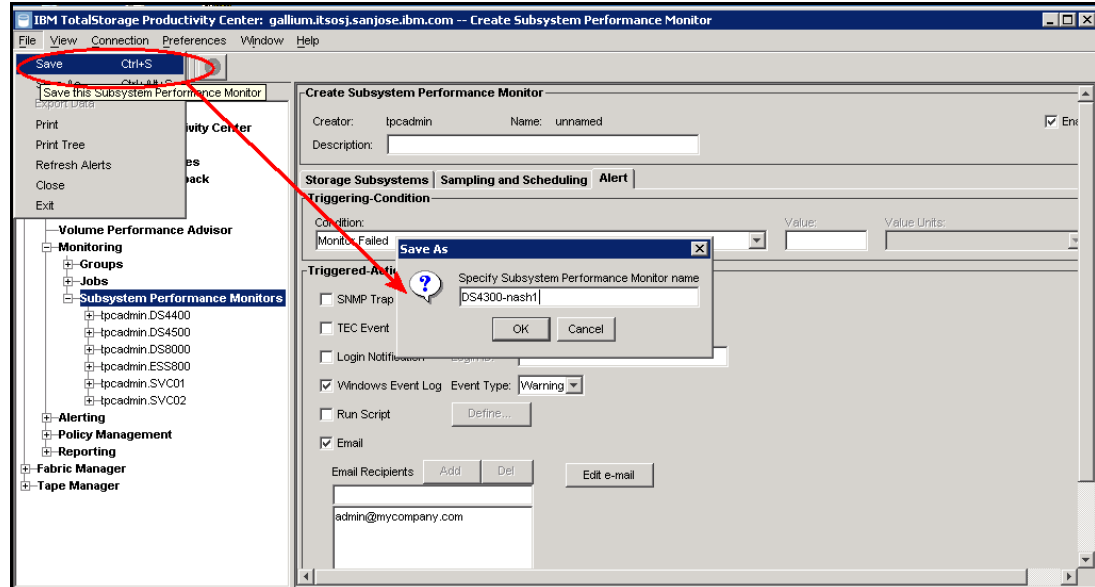

Figure 7-26 Save Performance Monitor job
4. Select **File** → **Save** to save the job and specify the job name when prompted, as shown in Figure 7-26.